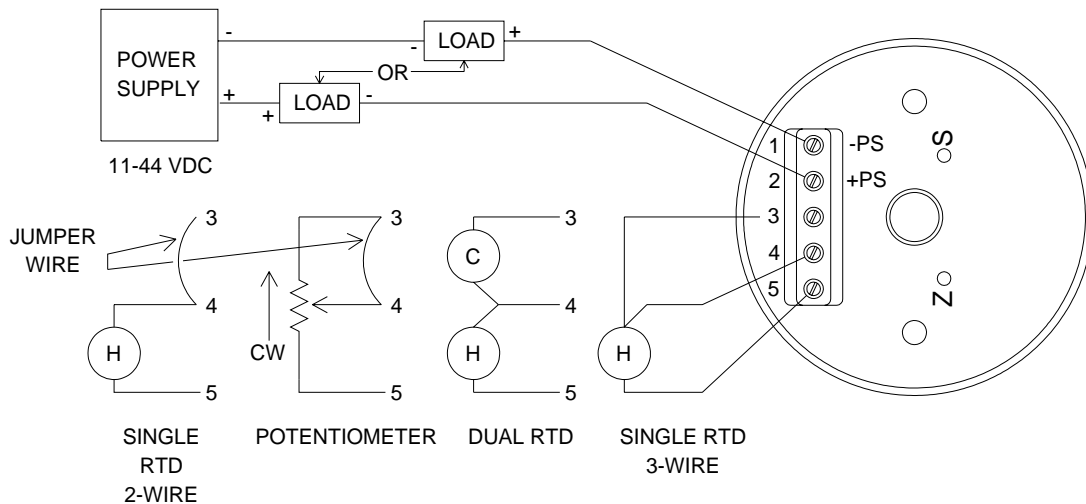

FIG. 3.1 - Typical Wiring
- 3.2 Connect appropriate DC power source in series with load to (+) and (-) power terminals. Note, the load may be connected to either the (+) or (-) power lead. Also connect the RTD element or the variable resistor to the input terminals. Refer to FIG 3.1 for detailed wiring instructions.